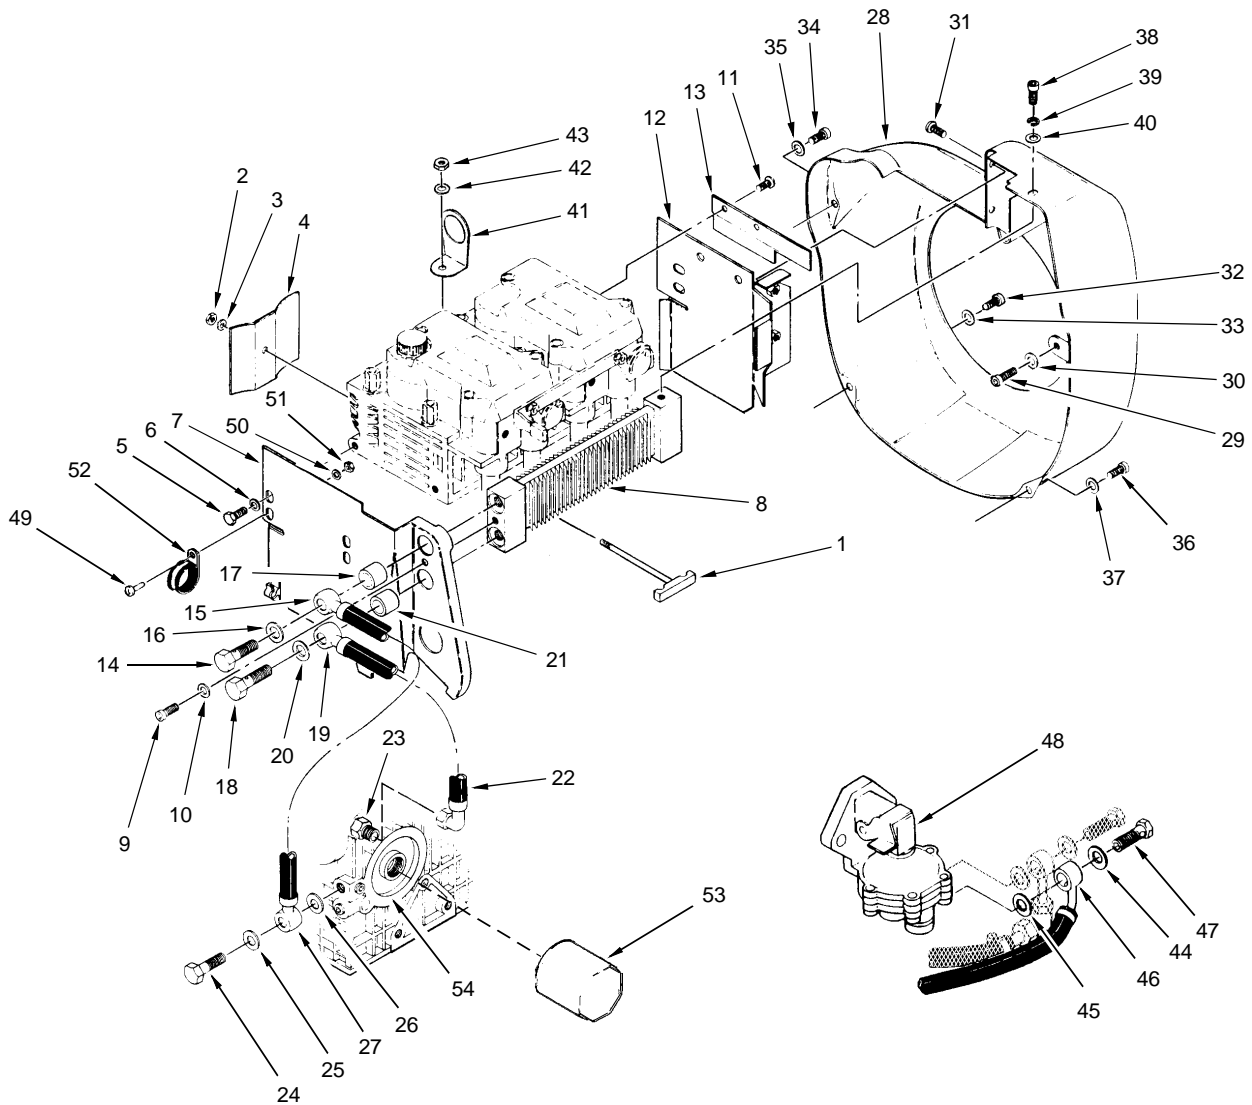

Figure 31. Shroud, Gates and Oil Cooler Installation
**INSTALL GATES, SHROUD AND OIL COOLER** (Refer to Figure 31.)**INITIAL SET-UP:****Tools:**